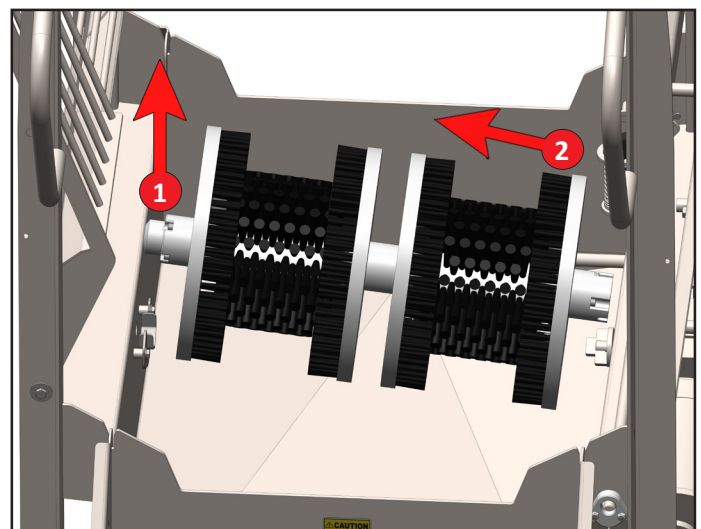

Fig. 8.3: Brush removal process, shown on BLX-800R
2. Lift the brush assembly out of the tub by grabbing the open end and lifting up [Figure 8.3 - Arrow 1].
3. With the open end lifted, the brush can be detached from its anchor [Figure 8.3 - Arrow 2].